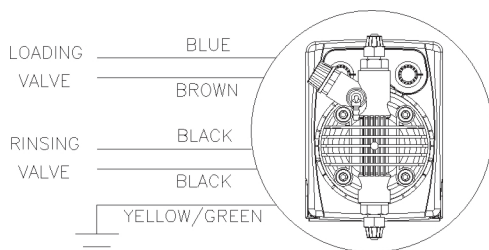

Fig. 4
1. Disconnect the pins from the mains or by means of a two poles switch with 3 mm minimum distance between the contacts. (Fig. 4).
- b. - Carefully observe the regulations in force in the various countries as regards electrical installations (Fig. 4).